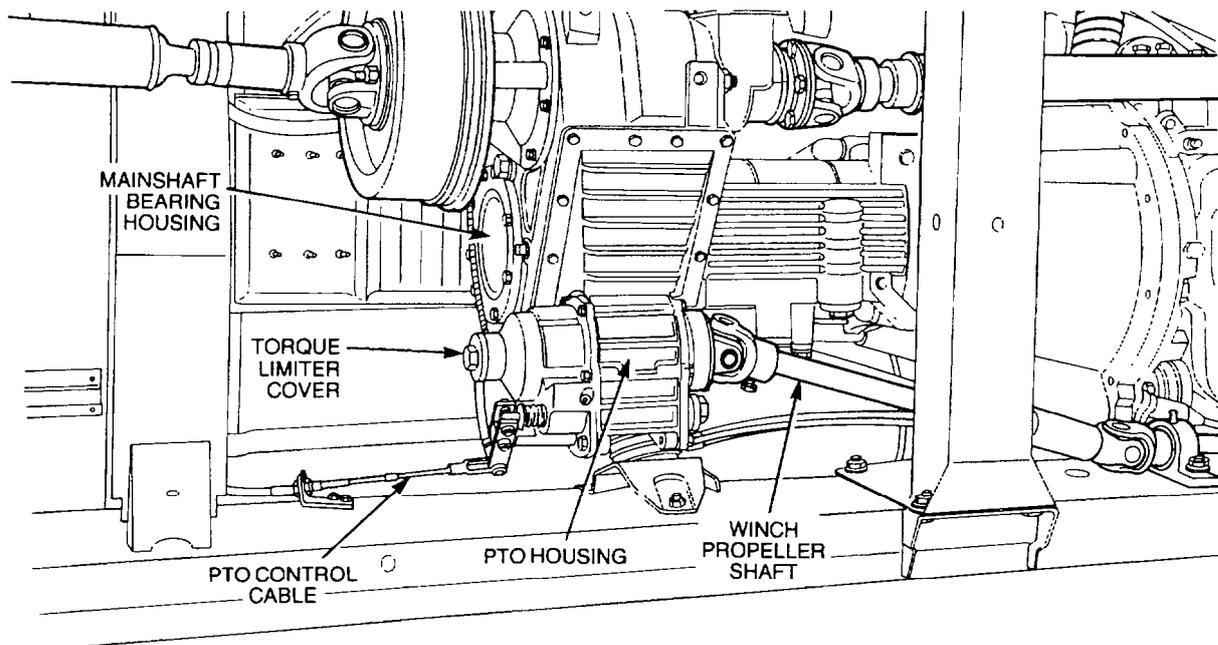

Figure 52 Power Take Off Removal
- d. Ensure that the winch and PTO are disengaged. Remove the split pin and clevis pin securing the PTO control cable to the PTO (Figure 52). Discard the split pin.
- h. Remove the bolts securing the mainshaft bearing housing to the transfer case taking care not to dislodge the mainshaft end support bearing (Figure 52).